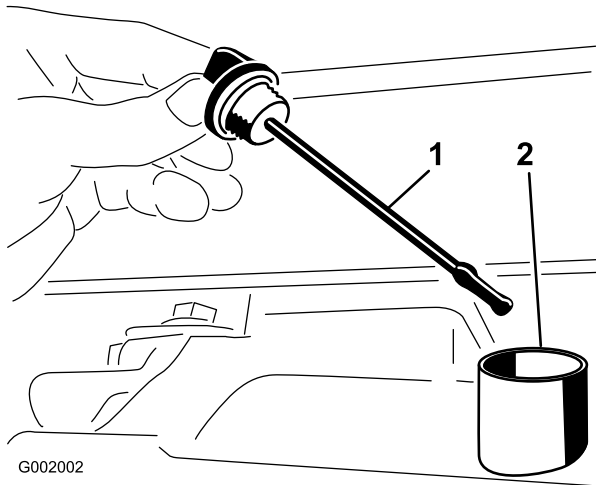

Figure 63
2. Remove the transaxle dipstick and wipe it with a clean rag (Figure 63).